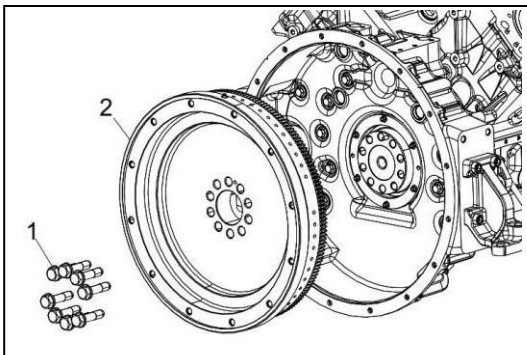

Figure 105
3. Remove all the flywheel fixing bolts (Figure 105, 1).
5. Remove the flywheel (Figure 105, 2) from the crankshaft.